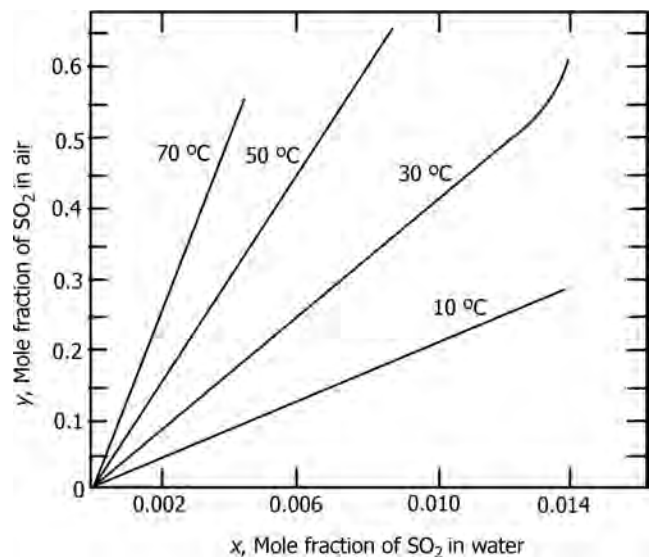

FIGURE 17.1 Absorption equilibrium diagrams for SO₂–water system at different temperatures.
- Figure 17.1 illustrates the effect of temperature on absorption equilibria for SO₂–water system at different temperatures.